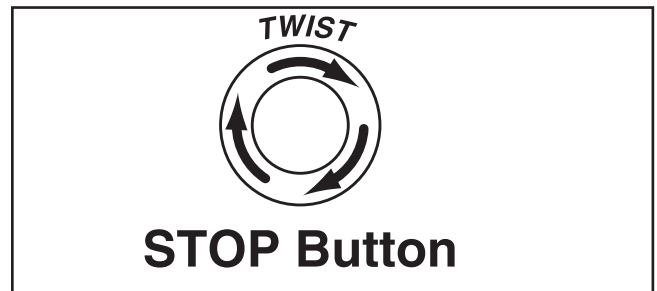

Figure 14. Resetting the switch.
7. Push the emergency STOP button in, then twist it clockwise until it pops out. When the emergency stop button pops out, the switch is reset and ready for operation (see **Figures 14–15**).